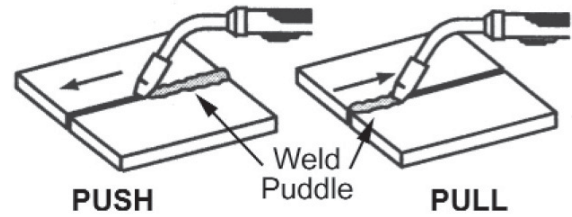

Figure 10. Travel Direction
1. TRAVEL DIRECTION is the direction the gun is moved along the weld joint in relation to the weld puddle. The gun is either **PUSHED** (see Figure 10) into the weld puddle or **PULLED** away from the weld puddle.